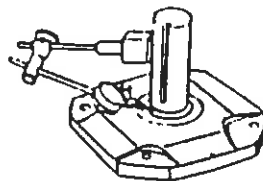

Figure 4
- F. For best performance, seat the seal square with shaft within .005" at 180°. Check with dial indicator as shown in Figure 4, Page 2, or with a straight edge and feelers, or square and feelers. To straighten a cocked seal, place tubing over the seal and tap the tube lightly at a point diametrically opposite the low point on the seal. DO NOT strike seal directly.